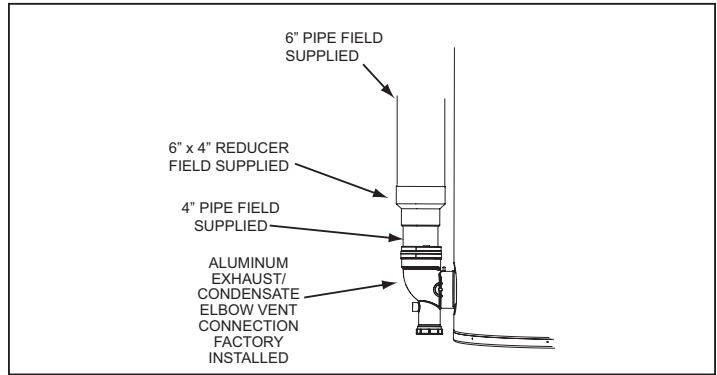

Figure 15. Vent Exhaust Connection
11. If installing 6 inch pipe transition to 4 inch pipe as shown in *Figure 15*. The field installed 4" pipe between the exhaust elbow and the 6" x 4" reducer coupling should be 18 inches (45 cm) or less in length.
11. If installing 6 inch vent pipe transition to 4 inch pipe at the exhaust elbow on the water heater as shown in *Figure 15* (page 23). The field installed 4" pipe between the exhaust elbow and the 6" x 4" reducer coupling should be 18 inches (45 cm) or less in length.